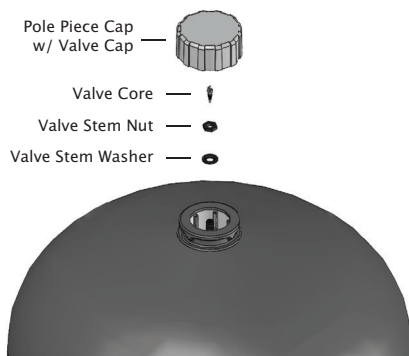

Figure 7: Remove Pole Piece Cap w/ Valve Cap, Valve Stem Nut and Washer
6. Remove the valve stem nut and washer. See Figure 7 for an overall disassembly view.